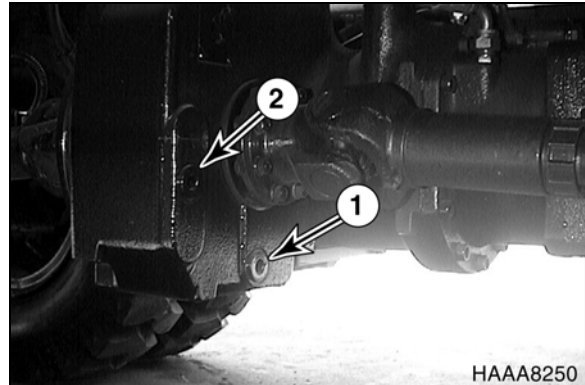

Figure 84
2. Clean off any dirt, grease and other foreign materials from area surrounding the drain (1, Figure 84) and fill (2) holes of the transmission.
5. Remove the fill plug (2, Figure 84) and fill to the bottom of the fill hole with approved transmission fluid.